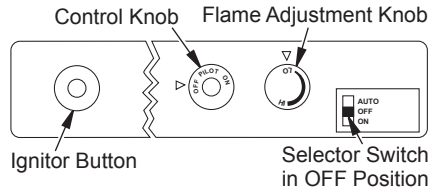

Figure 29 - Control Knob and Ignitor Button Location
4. Press in and turn control knob clockwise  to the OFF position (see Figure 29, page 24).
5. Wait five (5) minutes to clear out any gas. Then smell for gas, including near the floor. If you smell gas, STOP! Follow “B” in the safety information, starting in column 1, page 23. If you don’t smell gas, go to the next step.
6. Press in and turn control knob counterclockwise to the PILOT position. Press in control knob for five (5) seconds (see Figure 29).